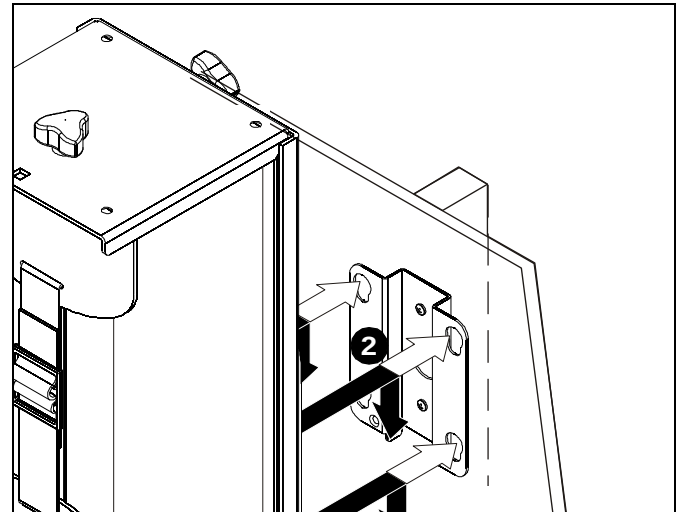

Figure 14
2. Insert mounting buttons into the four large mounting holes on the bracket and lower into place. (See Figure 14)